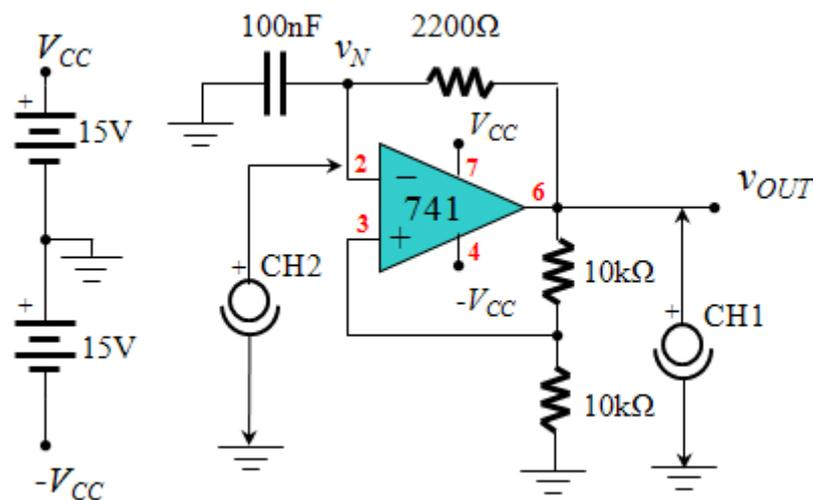

Figure 12. Mounting diagram corresponding to the free-running multivibrator in the lab.
Task PRELAB2 (Optional). In the Bread-board template represent the component distribution and wire connections corresponding to the OPAMP-based free-running multivibrator of Fig. 12 to be implemented in the lab.
Task LAB2 (Optional). Mount the circuit and check the performance of the OPAMP-based free-running multivibrator (Fig. 12).
- 1) Mount the circuit. Connect the DC power-supply and oscilloscope probes as indicated in Fig. 12. Turn the power on and represent the capacitor voltage v_C in CH1; and the output v_{OUT} in CH2. 2) Obtain the threshold values: $\pm V_{SAT}$, $\pm V_T$; and measure the oscillation frequency f_0 . 3) Compare the experimental results with the theoretical values obtained by means of (16).